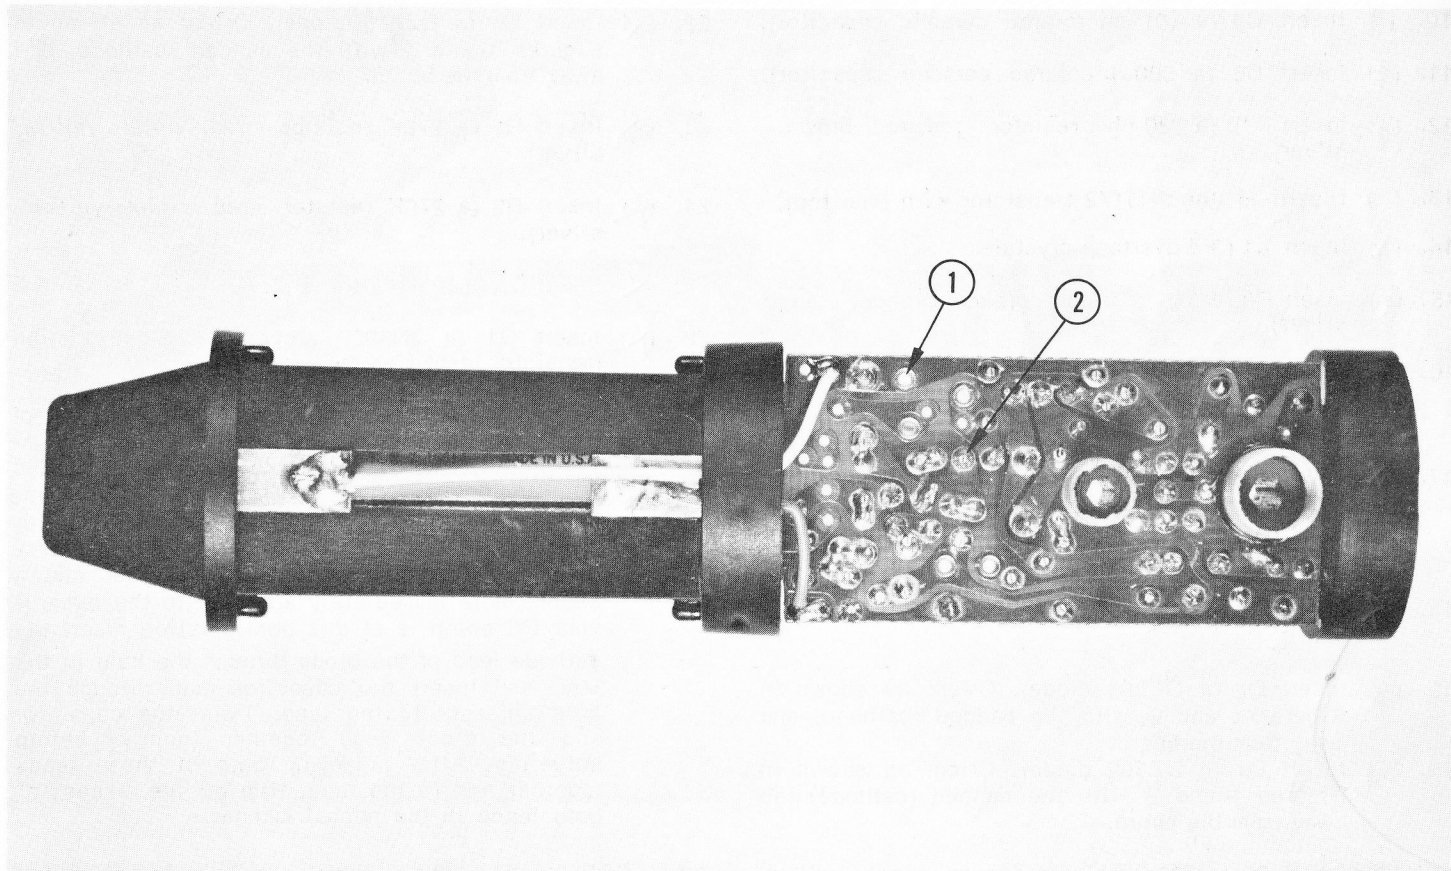

FIG. 3 BOTTOM VIEW TRANSROC RKT-F MODE
34. ( ) Inspect the bottom of the board (preferably with a magnifying glass), comparing it with Figure 3. Pay particular attention to the solder joints to see that the solder has flowed smoothly onto both the land and the wire lead. Inspect carefully to see that all of the eyelets which are in use are securely and smoothly soldered to their appropriate lands. Eyelets which are not soldered to the land will not make a reliable electrical connection.